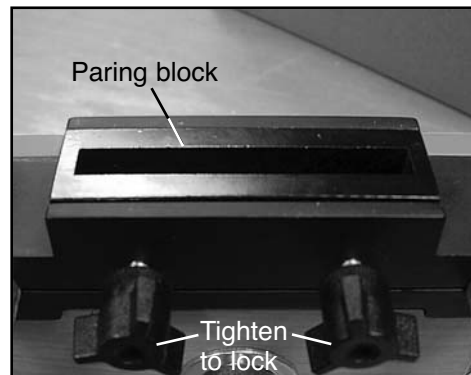

Fig. 18
10. Insert and lock paring block. (Fig. 18)